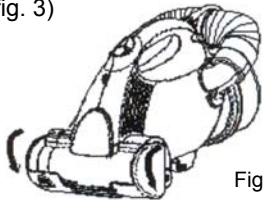

Fig. 2
1. Rotate the brush cover by pushing on the brush cover release button until it clicks in place. (fig. 2)